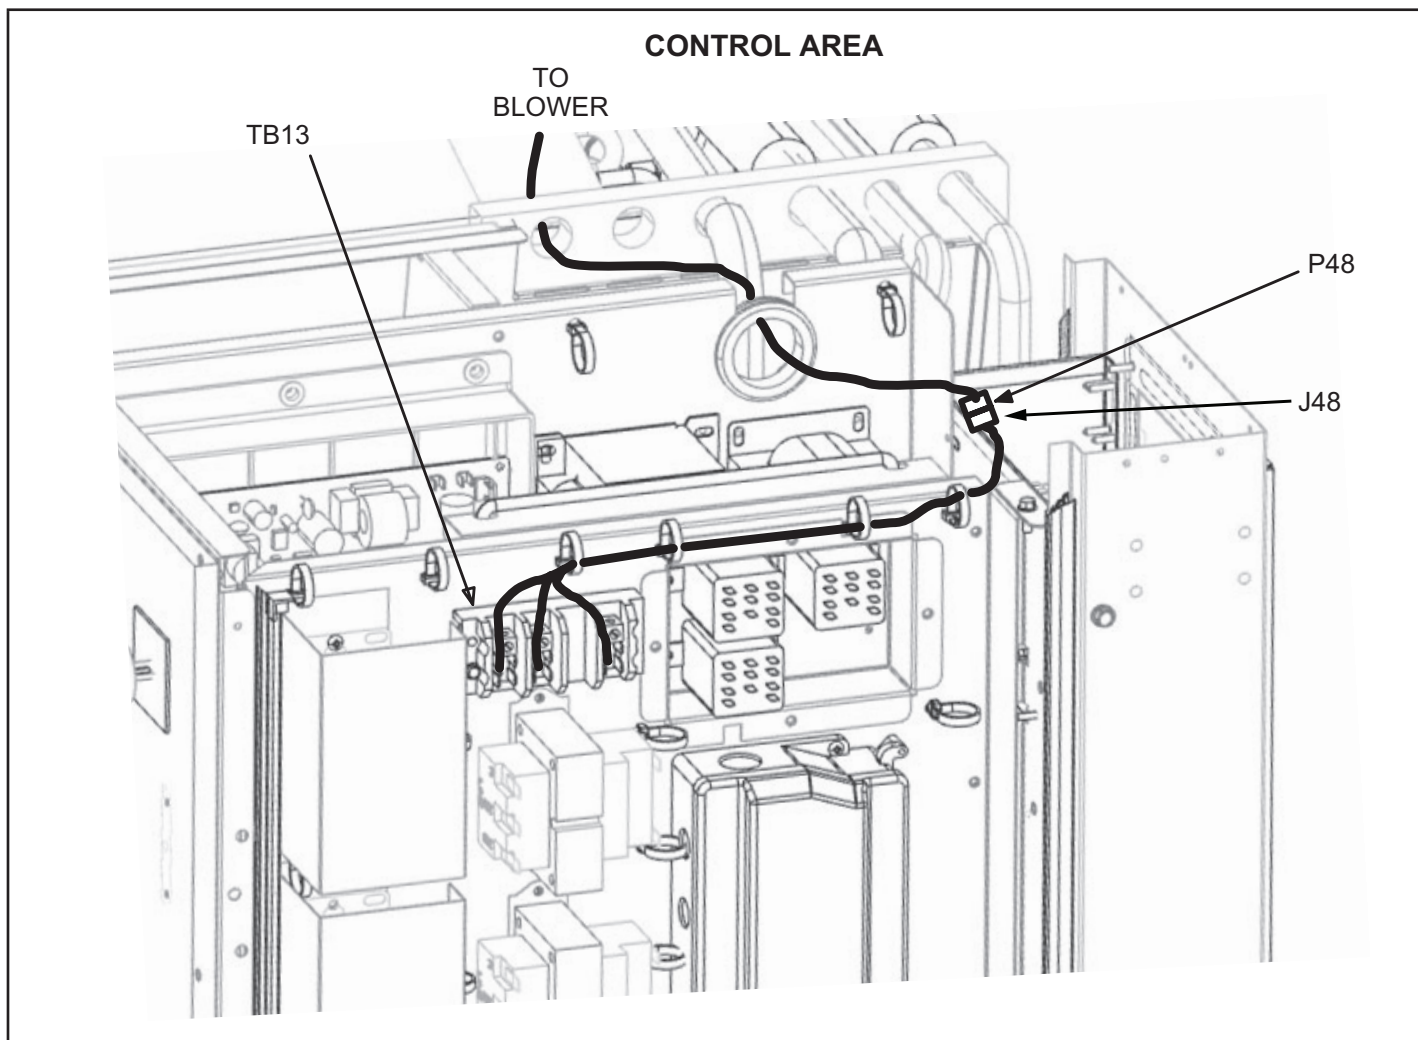

FIGURE 4
- 4 - Disconnect P48 in the controls area. See FIGURE 4.
5 - Install the provided replacement TB13 to J48 power harness by routing it per FIGURE 4.
Connect J48 power harness to P48 (previously routed from replacement blower). See FIGURE 4.